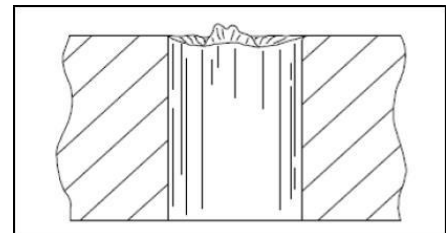

Figure 6 Hinged Burr
d. Hinged Burr: (see Figure 6):